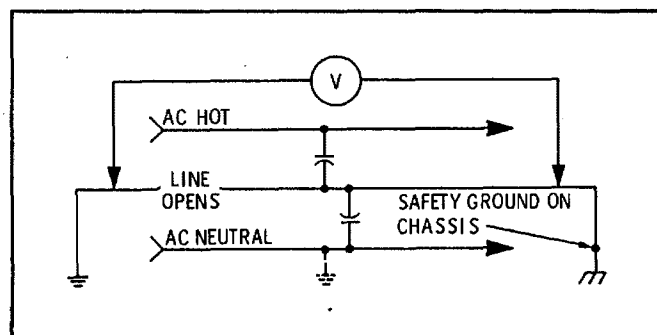

*Figure 1-2. Circuit if Equipment
1-7. **WARNING.** Ensure that the Spectrum Analyzer and any device connected to it are both properly grounded to the same power line ground. An interrupted path from earth ground to an instrument chassis safety ground (an open third-wire ground lead in a cord; for example, see Figure 1-2 below) can develop a potential (V) equal to one half of the power line voltage. This may cause a shock hazard as well as damage to the instrument.